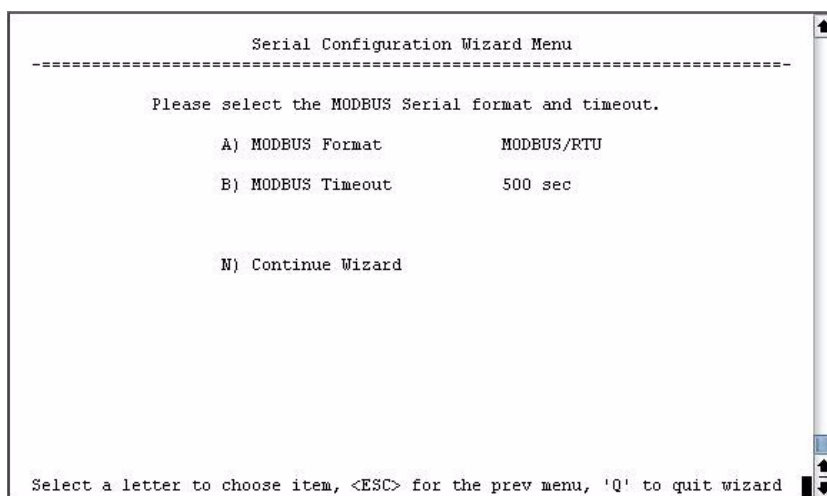

Figure 3-58. Select Data Baud Rate and Byte Format
5. When the next screen appears (Figure 3-58), press **A** to select the desired data baud rate and **B** to select the data byte format. Press **N** to continue.